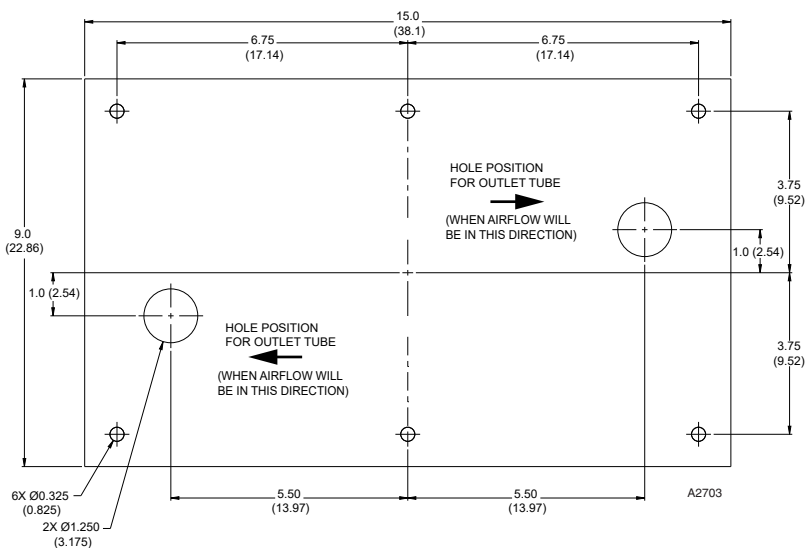

Figure 5—Q3013D Template dimensions in Inches (Centimeters)
3. Lay the fastening pattern template (Figure 5) onto the duct in a position to monitor the duct in a horizontal or vertical orientation. Ensure that there will be enough room to open the cover of the Q3013D.